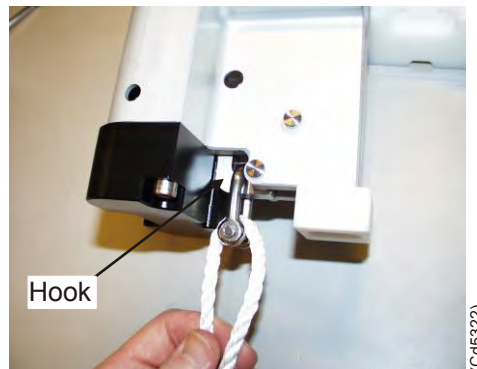

Figure 11 Release unit indicating the Hook
- Refer to Figure 11 Release unit indicating the Hook on page 46.